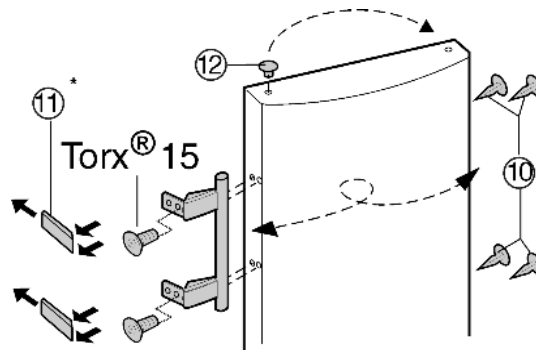

Fig. 7
- ▶ Lift the stopper Fig. 7 (12) out of the door bearing bush and transfer it.
- ▶ Detach door handle, stoppers Fig. 7 (10) and pressure plates Fig. 7 (11) and transfer to the opposite side.